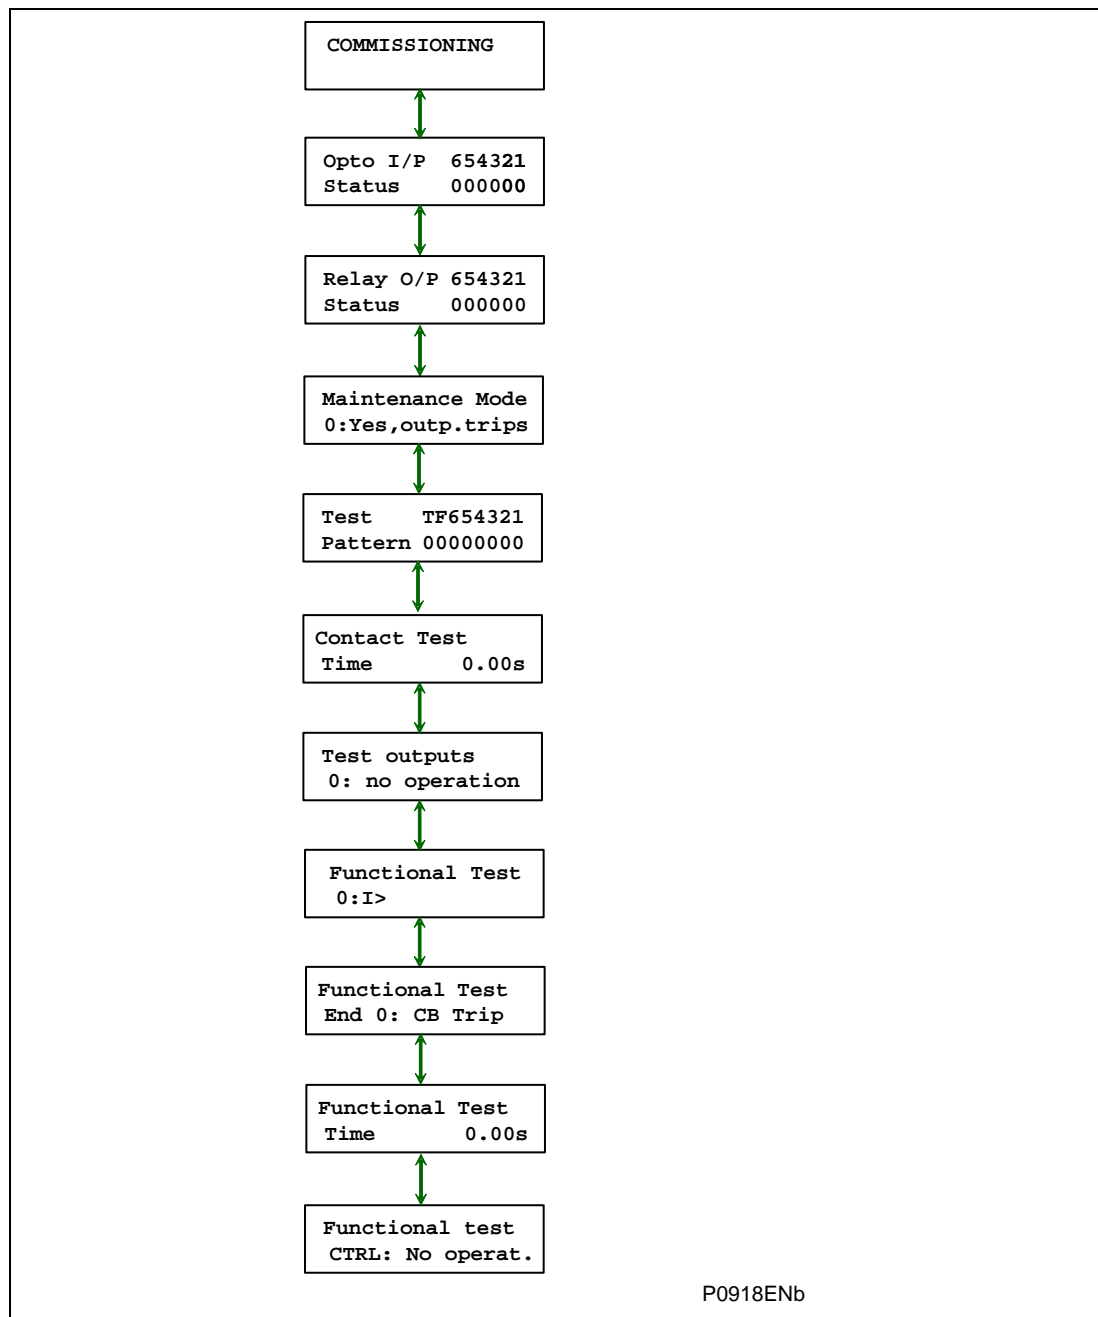

Figure 8: COMMISSIONING column (model A)
- **"Yes, outp. trips" - Maintenance mode** is enabled. In this mode all test cells in **COMMISSIONING** column are available (see Fig.8 below). During tests outputs are energized.
- **"Yes, outp. block" - Maintenance mode** is enabled and all test cells in **COMMISSIONING** column are available (see Fig.8 below). In this mode, the high state of output functions are ignored (control of outputs are blocked).